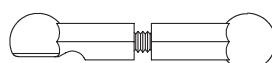

Figure C-6A
- 1. Thread a Short Plastic Rod End (26) onto each end of the 4-40 x 5/8" Threaded Rod (27).
- 2. Refer to Table C-3C (on the previous page) to determine the appropriate Rod length for the servo that is installed. Tighten both sides equally until the rod is the same length as the one shown in Figure C-6A or C-6B.